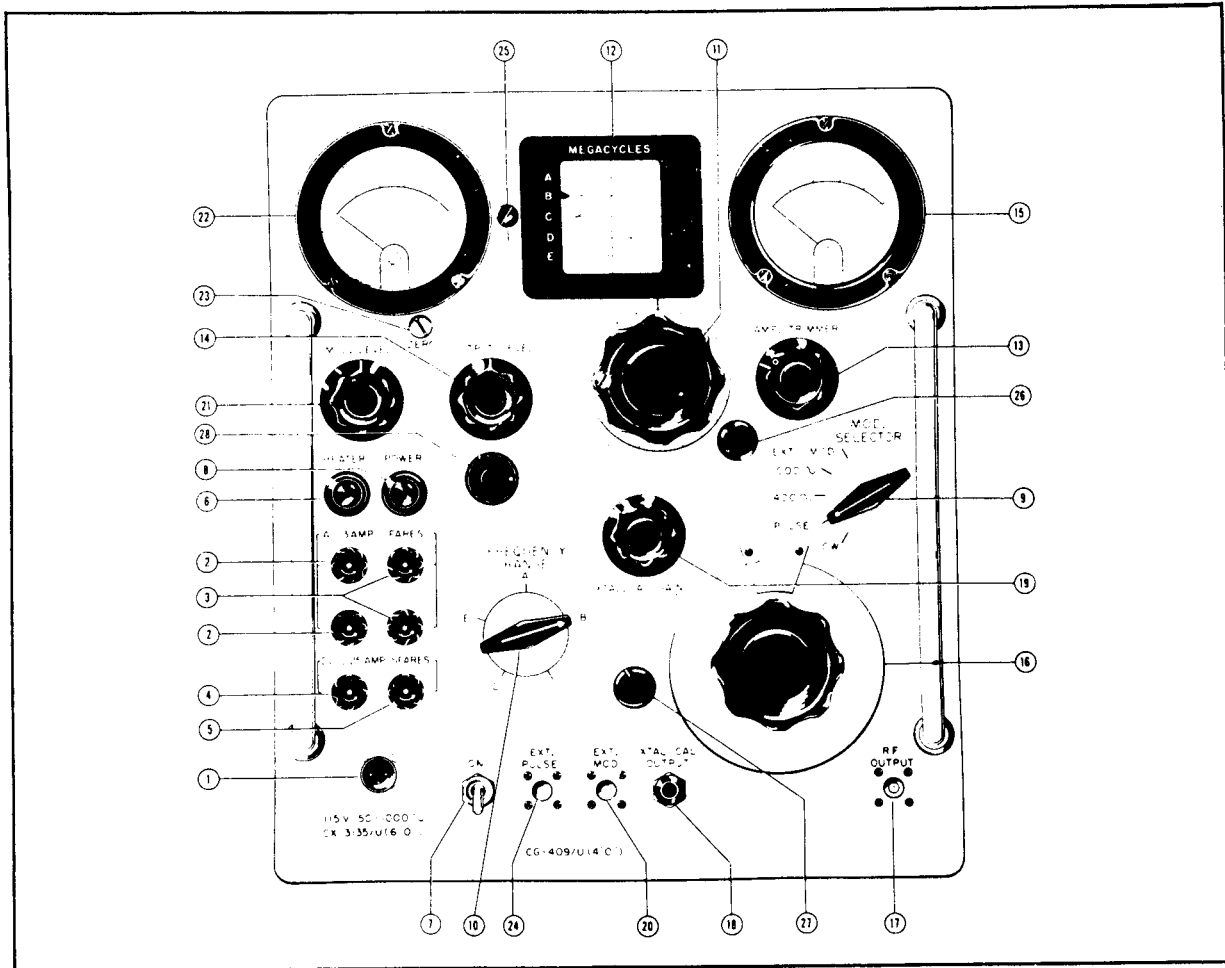
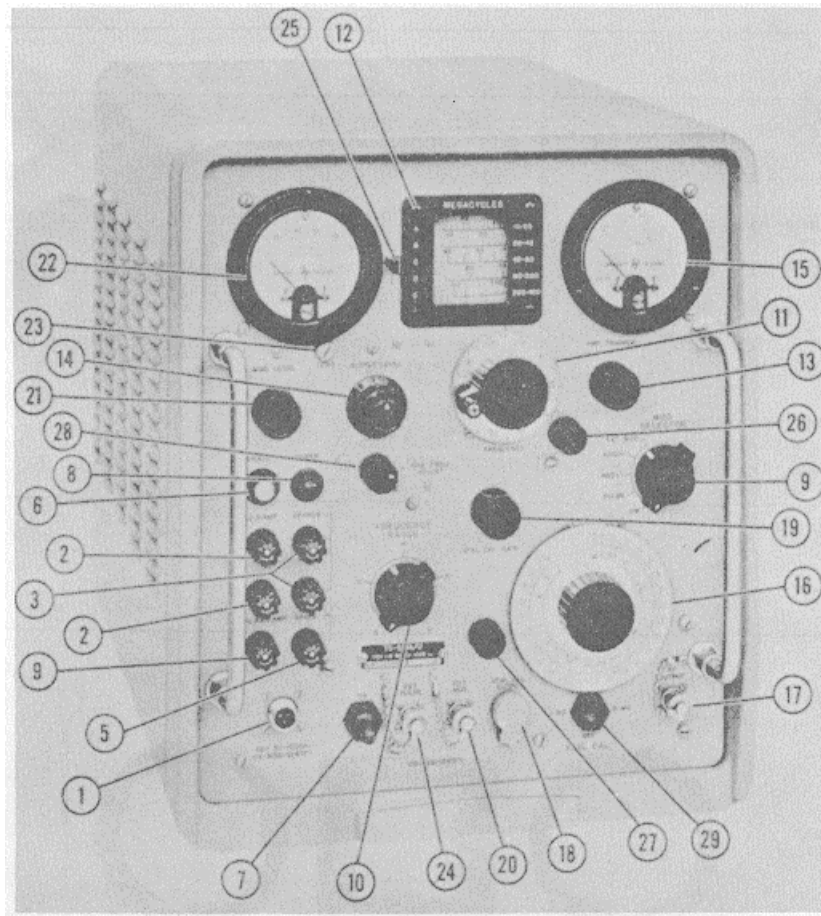
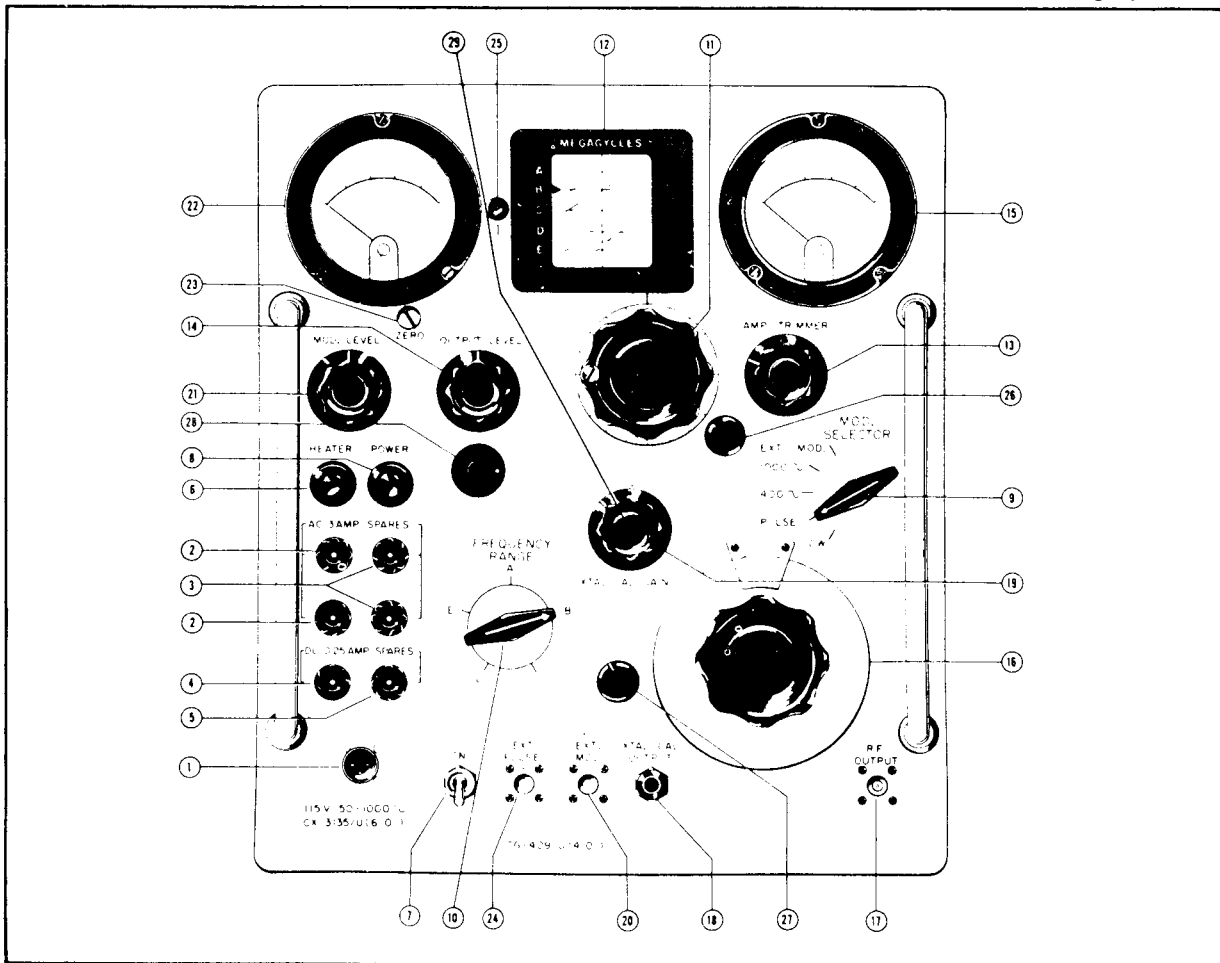
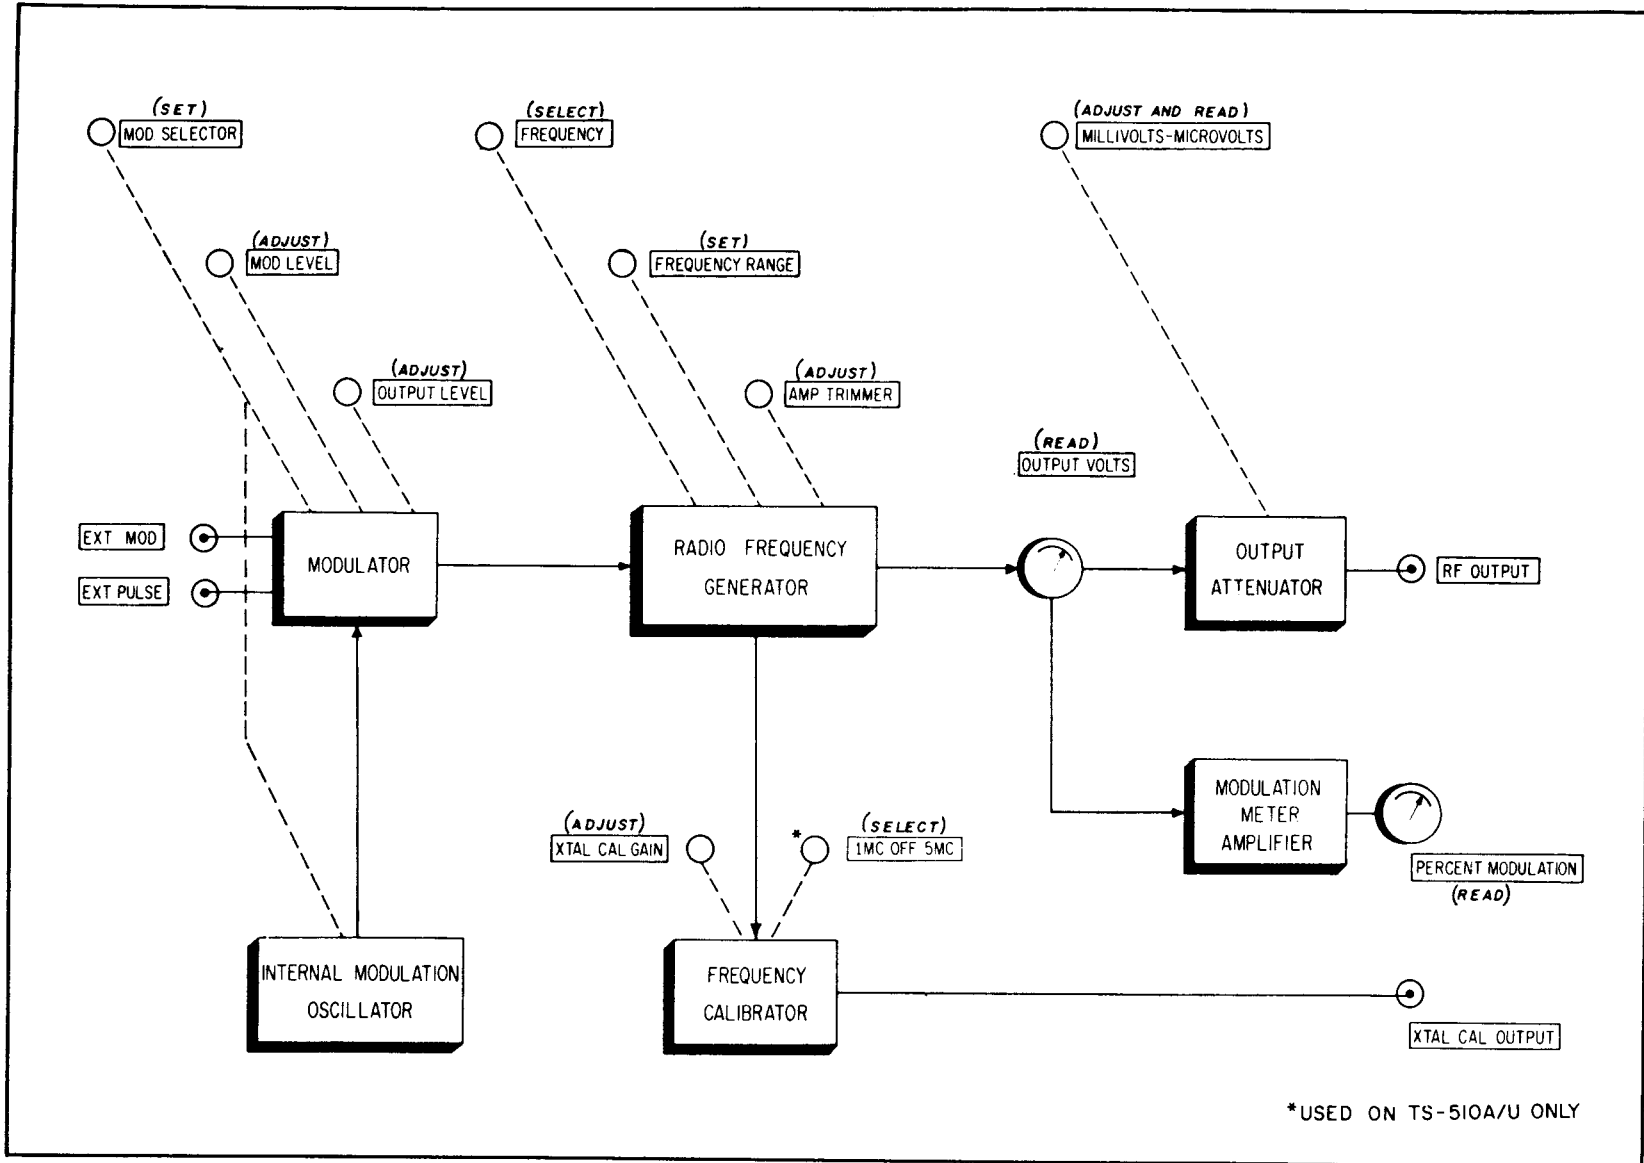

Figure 2-1. Signal Generator TS-510/U (Hewlett-Packard) Front Panel Controls
Figure 2-2. Signal Generator TS-510At/U (Hewlett-Packard) Front Panel Controls
Figure 2-3. Signal Generator TS-510A 'U (Nuclear Electronics) Front Panel Controls
Figure 2-4. Diagram Showing Relationships of Front Panel Controls to Major Circuits
**1-32. FINE FREQ. ADJUST CONTROL.** Beginning with serial number 510, the TS-510/U Signal Generators are equipped with a short range incremental tuning device for making extremely small changes in the output signal frequency. The FINE FREQ. ADJUST control is operated by an additional knob on the front panel and provides from 0.01 to 0.2% adjustment in the output frequency after selection by the main frequency control dial. The addition of the FINE FREQ. ADJUST control does not alter the circuit, operation, or specifications for the signal generator. The FINE FREQ. ADJUST control is illustrated in figures 2-2 and 2-3, item 28.
**1-35. OUTPUT ATTENUATOR CONTROL, TS-510/U AND TS-510A,U(\*).** (See figures 2-1 and 2-2.) The accuracy of the attenuator dial is within  $\pm 2$  decibels for all conditions of operation at rated load.
**1-36. OUTPUT ATTENUATOR CONTROL, TS510A/U(\*\*).** (See figure 2-3.) The accuracy of the attenuator dial is within  $\pm 1$  decibel for all conditions of operation at rated load.
**2-8.** The front panel operating controls, dials, and terminals for the TS-510/U and the TS-510A/U are listed with their functions in Table III and are shown in figures 2-1, 2-2, 2-3, and 2-4. Figure 2-1 shows the front panel layout for the TS-510/U, figure 2-2 shows the front panel layout for the TS-510A/U(\*), and figure 2-3 shows the front panel layout for the TS-510A/U(\*\*). A simple block diagram showing which circuits in the signal generator are affected by the various front panel controls is shown in figure 2-4.